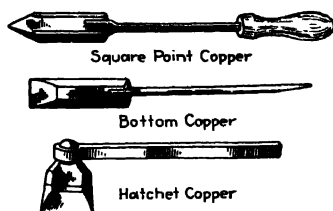

Fig. 19-3. Soldering irons, or coppers.
**Soldering Irons.** Soldering irons are really made of copper. In fact, they are sometimes called soldering *coppers*. Copper is used because of its resistance to oxidation and corrosion and because of its ability readily to absorb and give up heat. Soldering coppers (Fig. 19-3) are made in different shapes and of varying weights.